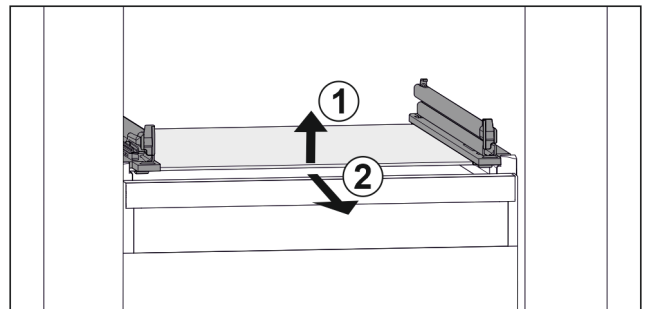

Fig. 36 Example illustration of glass shelf
- Lift glass shelf at the front. Fig. 36 (1)
- Take out glass shelf to the front. Fig. 36 (2)